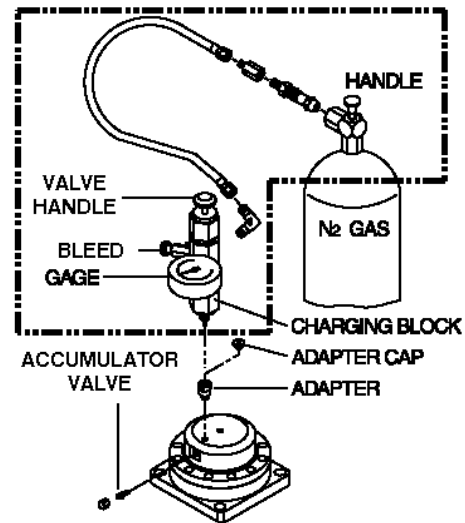

Fig. 12-2 N2 Gas Charge in Accumulator
After membrane replacement, the accumulator must be pre-charged with nitrogen (N2) gas. This is accomplished with the charging tool (Fig. 12-2) and a commercially available nitrogen bottle.
Read, understand and follow all instructions for the safe and proper use of this tool. These instructions were prepared to assist the qualified technician with the information necessary for measuring/filling the Accumulator (figure 12-2).
- Charge Kit 575427 (Fig. 12-2)
### 12.3.2 Connecting the Charge Tool (Fig. 12-2)